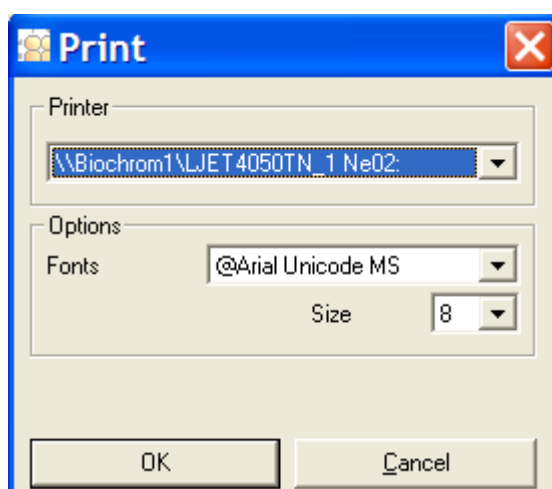

Figure 9-4: Print – Multitest layout
1. Choose **Print**. Print appears (Figure 9-4).